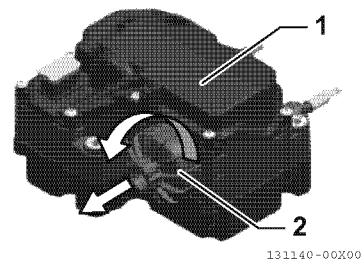

Fig. 25-40
- 2 - Remove the main filter cover (2, Fig.25-40) of the SM (1, Fig.25-40) using a specified tool (27 mm 12-point socket wrench: DIN 3124/ISO 2725-1). When removing the cover, put a waste cloth or the like beneath the filter cover in case urea water spills on the floor.